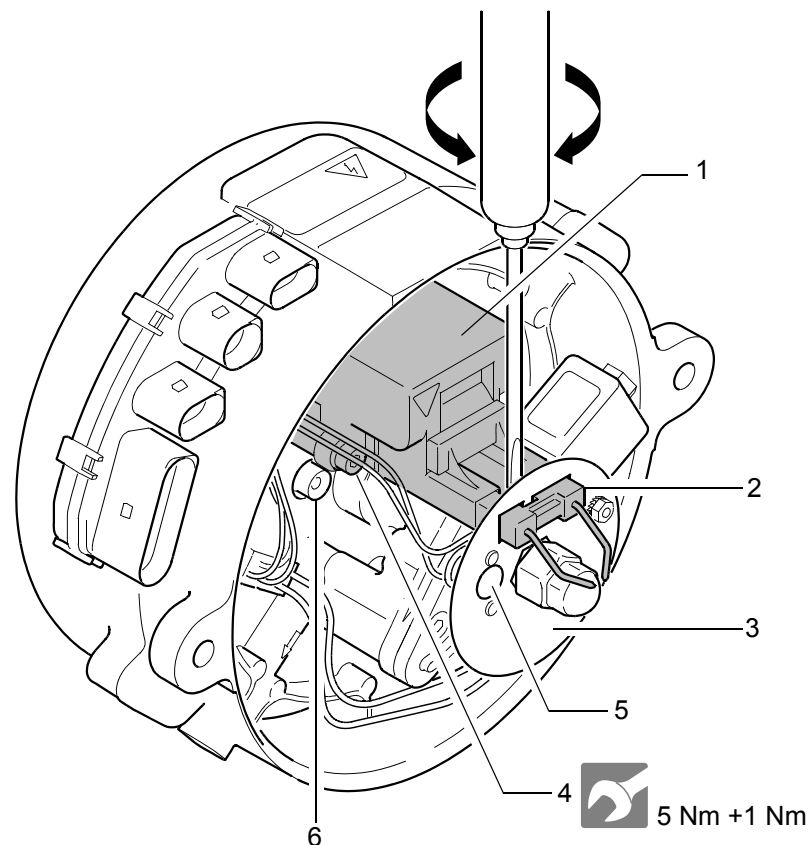
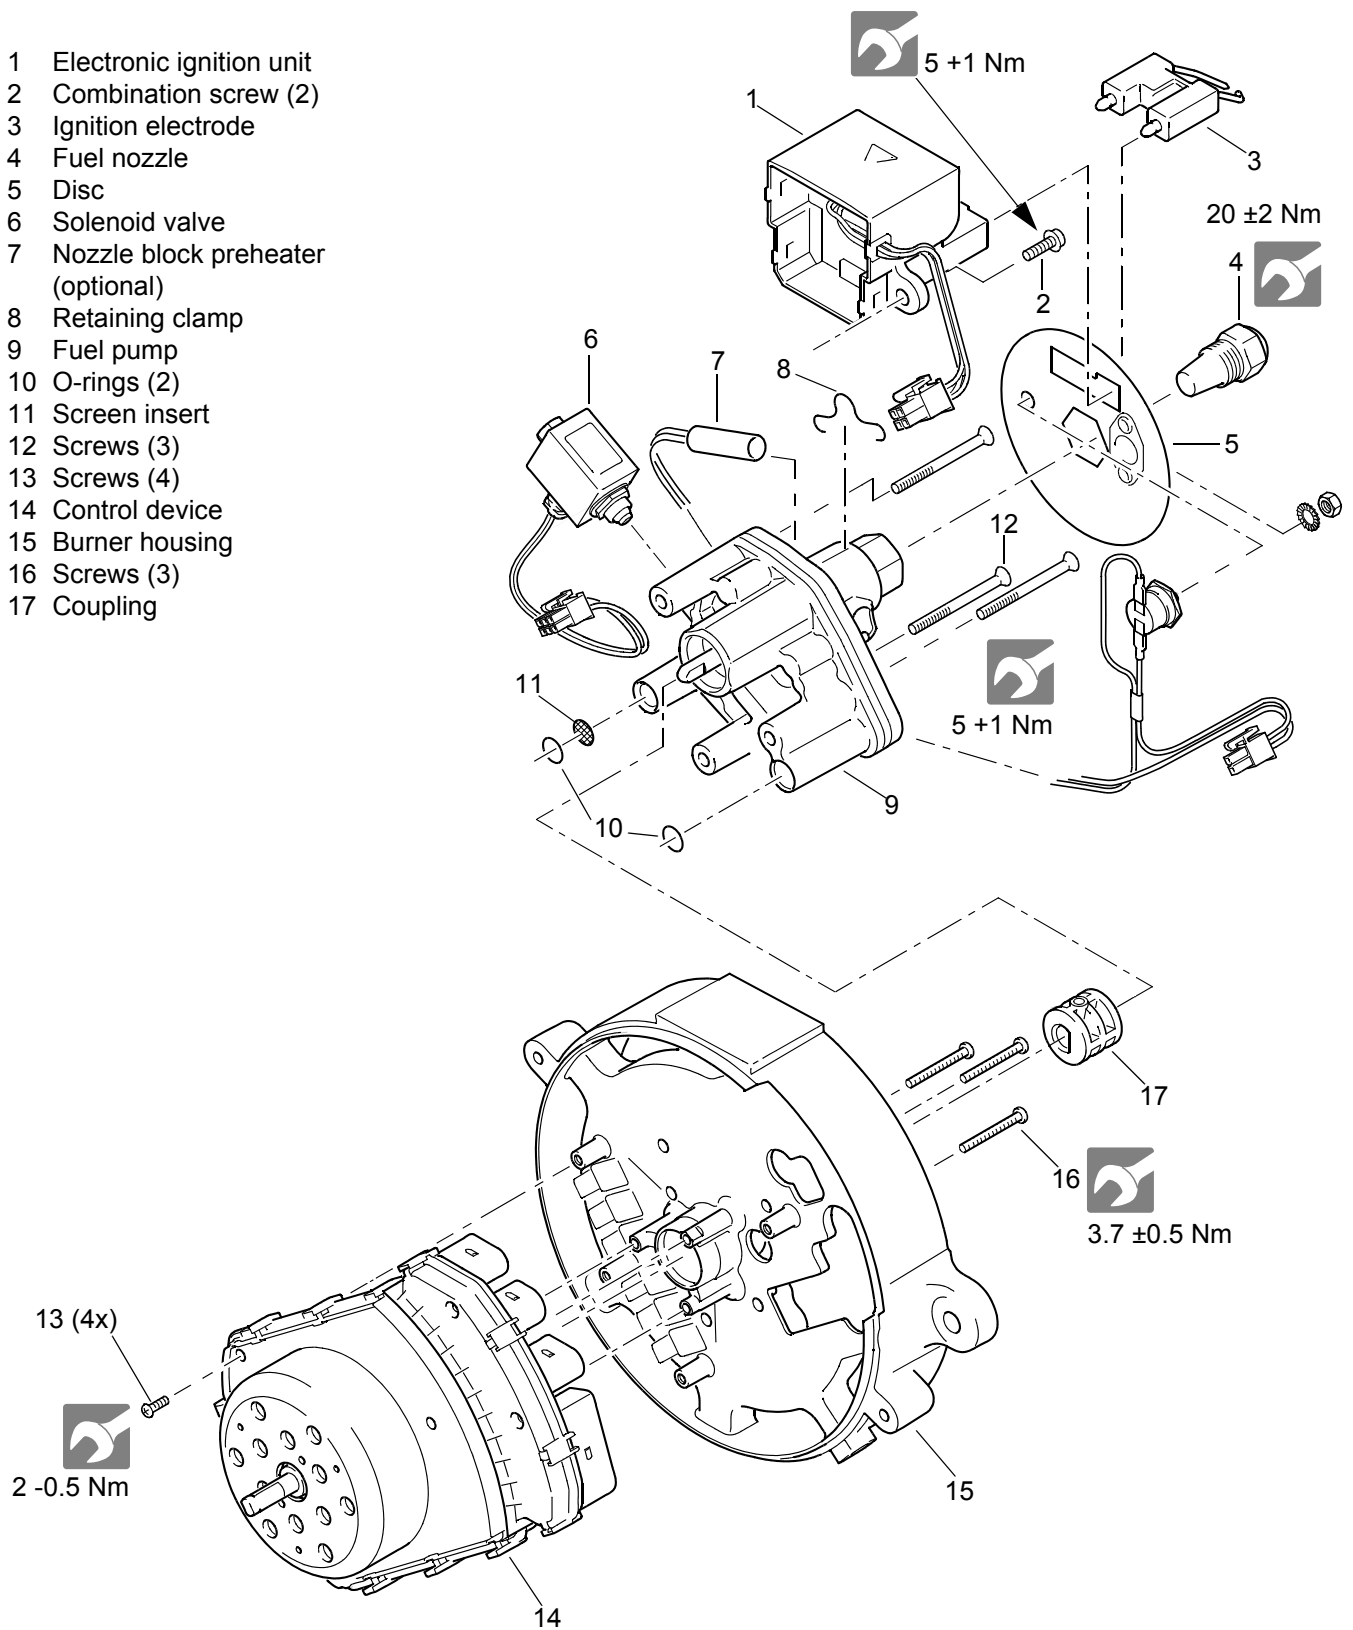

Fig. 804 Electronic ignition unit / ignition electrode removal and installation
Fig. 805 Components removal and installation
2. Lift off ignition electrode from the electronic ignition unit by twisting a screwdriver sideways (see Fig. 804) and remove it.
3. Remove the disc (3) from the nozzle holder.
5. Remove the combination screws (4).
6. Pull electronic ignition unit (1) off and remove it.
1. Bring electronic ignition unit (1, Fig. 804) into installation position and secure with combination screws (4).
3. Fit the disc (3) onto the nozzle holder of the fuel pump (9, Fig. 805) and align it so, the ignition electrode (2, Fig. 804) may be inserted into the electronic ignition unit.
4. Insert ignition electrode (2, Fig. 804) into the electronic ignition unit.
- 4 Screws (2)
2. If necessary remove the coupling (17, Fig. 805) from the shaft of the burner motor.
4. Remove the 4 screws (13), securing the control device to the burner housing.
5. Remove the 3 screws (16), securing the burner motor to the burner housing.
6. Remove the control device (14) from the burner housing (15).
1. Position the control device (14, Fig. 805) onto the burner housing.
2. Screw in the 3 screws (16), securing the burner motor to the burner housing and tighten them.
3. Install the 4 screws (13), securing the control device to the burner housing and tighten them.
5. Put the coupling (17, Fig. 805) onto the shaft of the burner motor.
2. Remove disc (3, Fig. 804).
5. Remove and discard the 3 screws (12, Fig. 805), securing the fuel pump to the burner housing.
6. Remove the fuel pump (9) incl. solenoid valve (6).
7. Remove and discard the O-rings (10) and the screen insert (11).
8. If necessary remove the solenoid valve (6) from the fuel pump (9) (see 8.9).
- 2 Combination screw (2)
1. If necessary, install solenoid valve (6, Fig. 805) onto the fuel pump (9) (siehe 8.9).
2. Install new O-rings (10) and a new screen insert (11) into the fuel pump (9).
**In order to avoid damage to the O-rings, to not twist fuel pump (9) during assembly.**
3. Align the fuel pump (9) with the burner housing (15) and bring it into installation position. Before doing this, align if necessary the coupling (17) by rotating it on the burner motor shaft.
4. Mount the fuel pump (9) using 3 new screws (12, with coated threads) and tighten them.
5. Reconnect the solenoid valve (6) plug to the control device (14).
7. Install disc (3, Fig. 804).
2. Lift off ignition electrode (3, Fig. 805) from the electronic ignition unit by twisting a screwdriver sideways (see Fig. 804) and remove it.